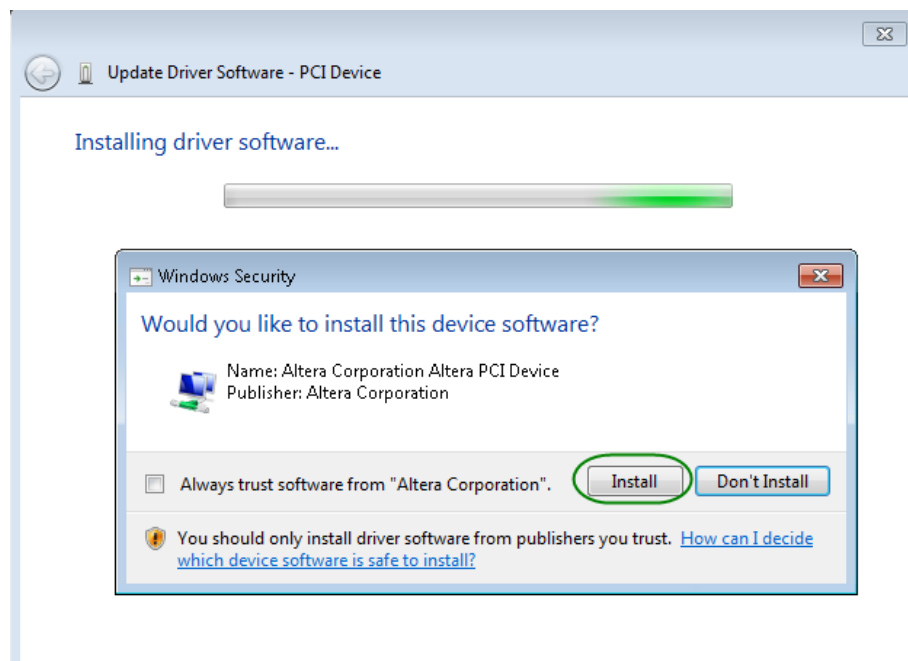

Figure 6-6 Click Install in the dialog of Windows Security
8. When the **Windows Security** dialog appears, as shown **Figure 6-6**, click the **Install** button.